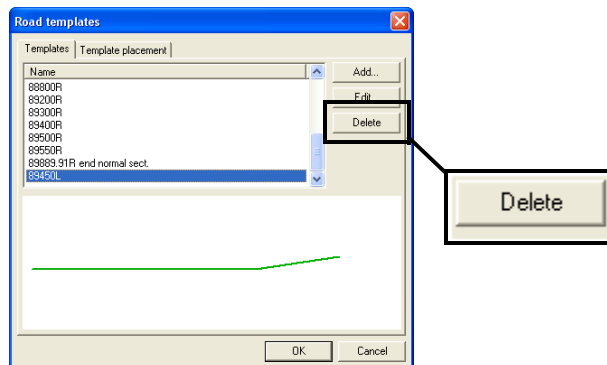

Figure 6-42. Delete Template
1. To delete a template, select the desired template and click **Delete** (Figure 6-42).